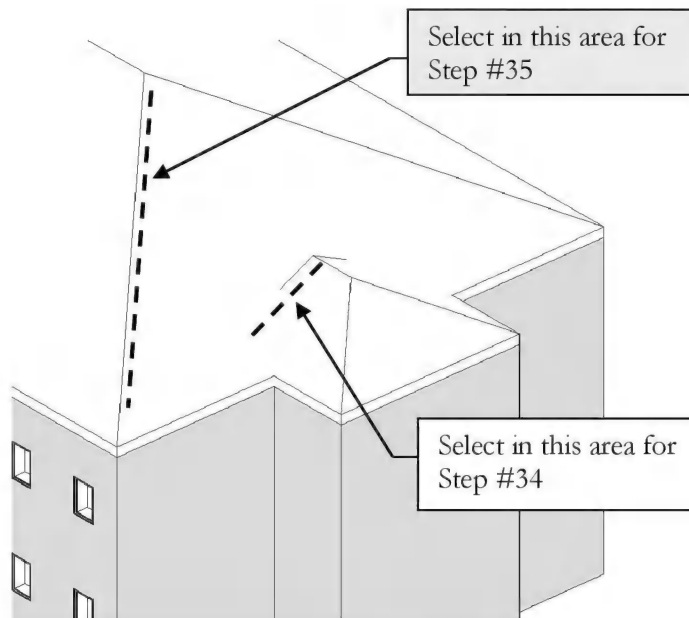

FIGURE 6-1.11 Default 3D View
32. Switch to the *Default 3D View* and adjust your view to look similar to Figure 6-1.11.
34. Select the edge of the smaller roof; see Figure 6-1.11.
35. Select the edge of the larger roof; see Figure 6-1.11.